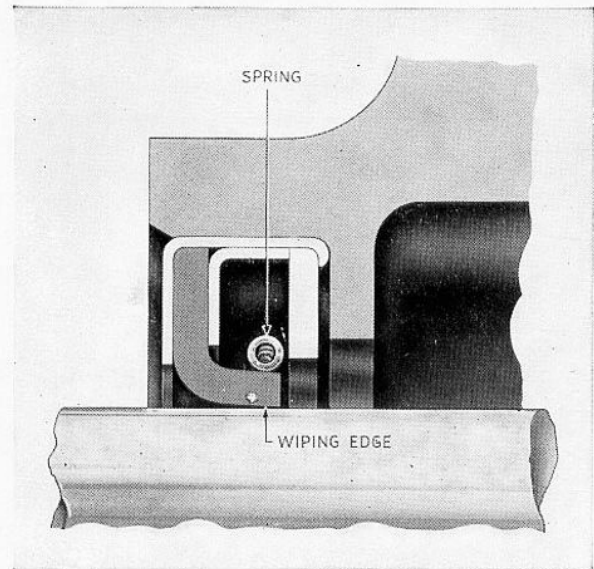

FIG. 1. SECTION THROUGH OIL SEAL IN POSITION
- i. Assemble the wiping edge or lip of the sealing member towards the bearing in which the lubricant is to be retained, as shown in Fig. 1.